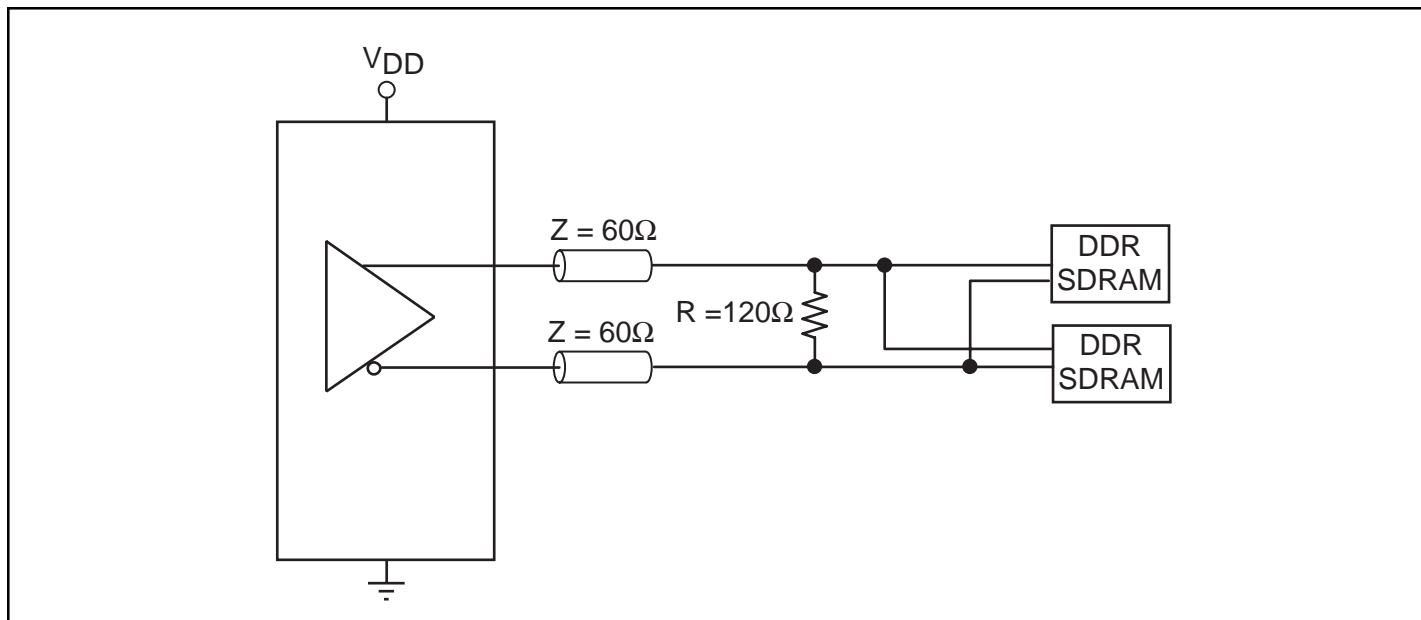

Figure 1. IBIS Model Output Load
(See Figure 1 and 2)
2. The slew rate is determined from the IBIS model with test load shown in Figure 1.